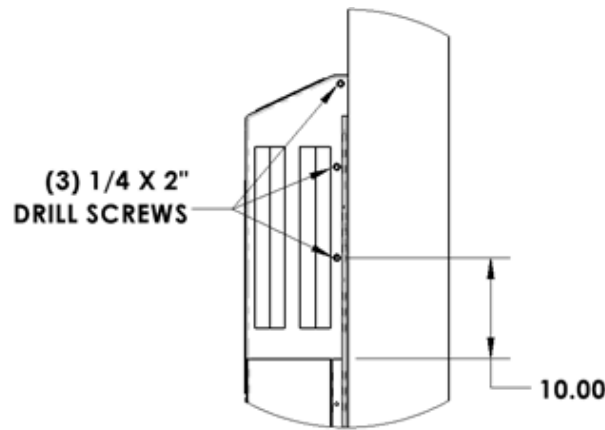

FIGURE 12
- (3) 1/4"x2" Long Drill Screws (I) should be used to fully secure each end of the Hood (E). The bottom 2 drill screws will mount to the Long Bracket w/Seal (A). The top drill screw will mount to the end face of the 2x4 Header (F) (Figure 12).